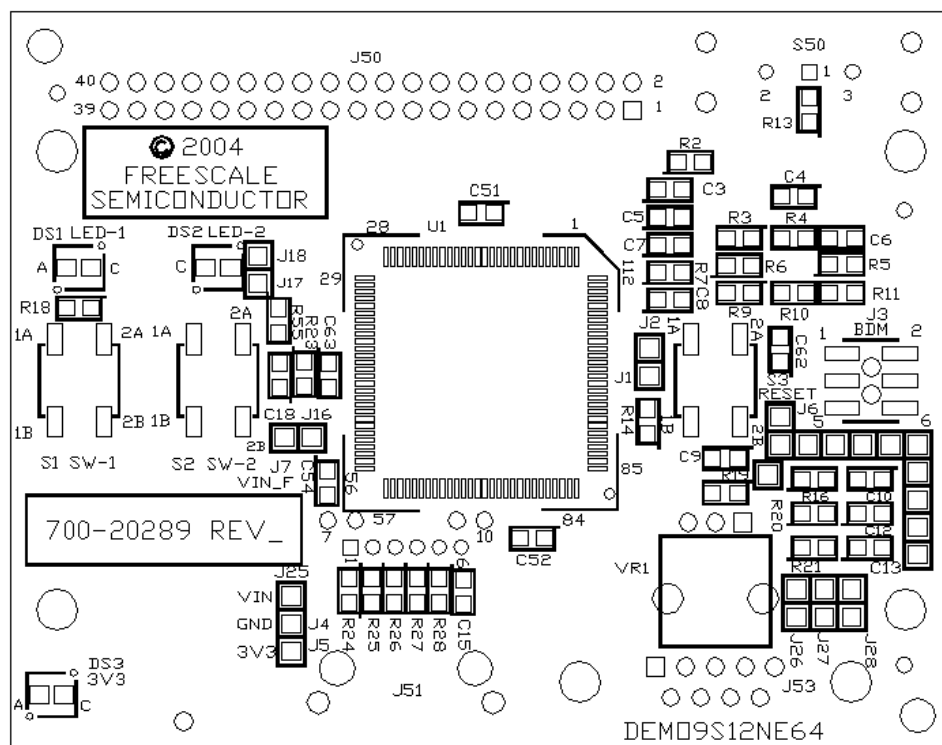
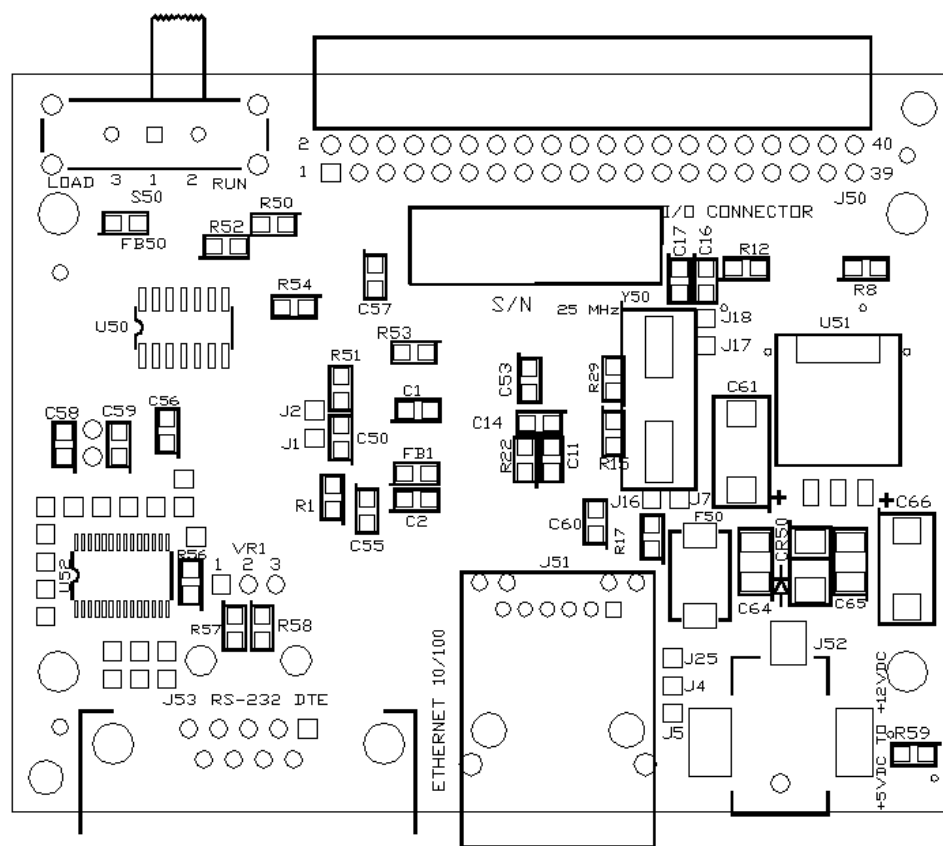

Figure 1-2 DEMO9S12NE64 Top Side
Figure 1-3 DEMO9S12NE64 Bottom Side
- Figure 1-2 and Figure 1-3 show the top and bottom side layout of the DEMO9S12NE64